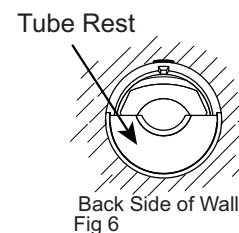

Fig 6
8. Be sure the Tube Rest is seated in the slots on the back end of the Mounting Sleeve. The Tube Rest provides the proper faucet drain angle position. Fig 6